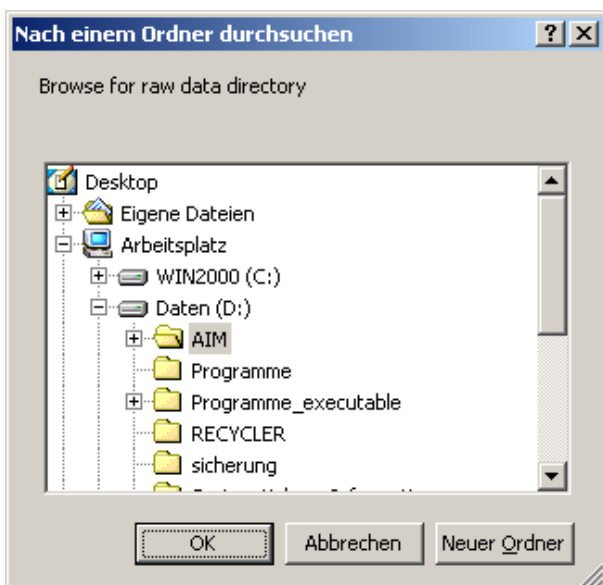

Fig. 4-85 Save raw data
- When the button is clicked, a WINDOWS directory selection dialog will open (see Fig. 4-85).